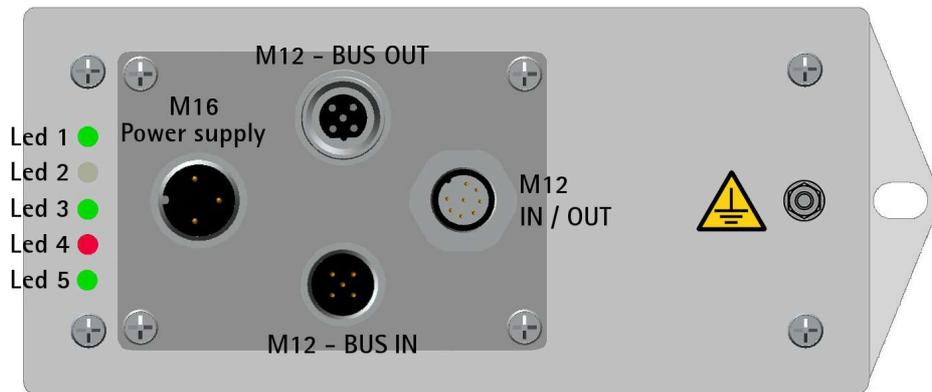

Figure 3: Electrical connections and diagnostic LEDs
4.1 Ground connection (Figure 3)
4.2 Connectors (Figure 3)
4.3 Diagnostic LEDs (Figure 3)
Five LEDs located next to the M16 power supply connector (see Figure 3) are meant to show visually the operating or fault status of the Modbus interface and the device as well. The meaning of each LED is explained in the following table: